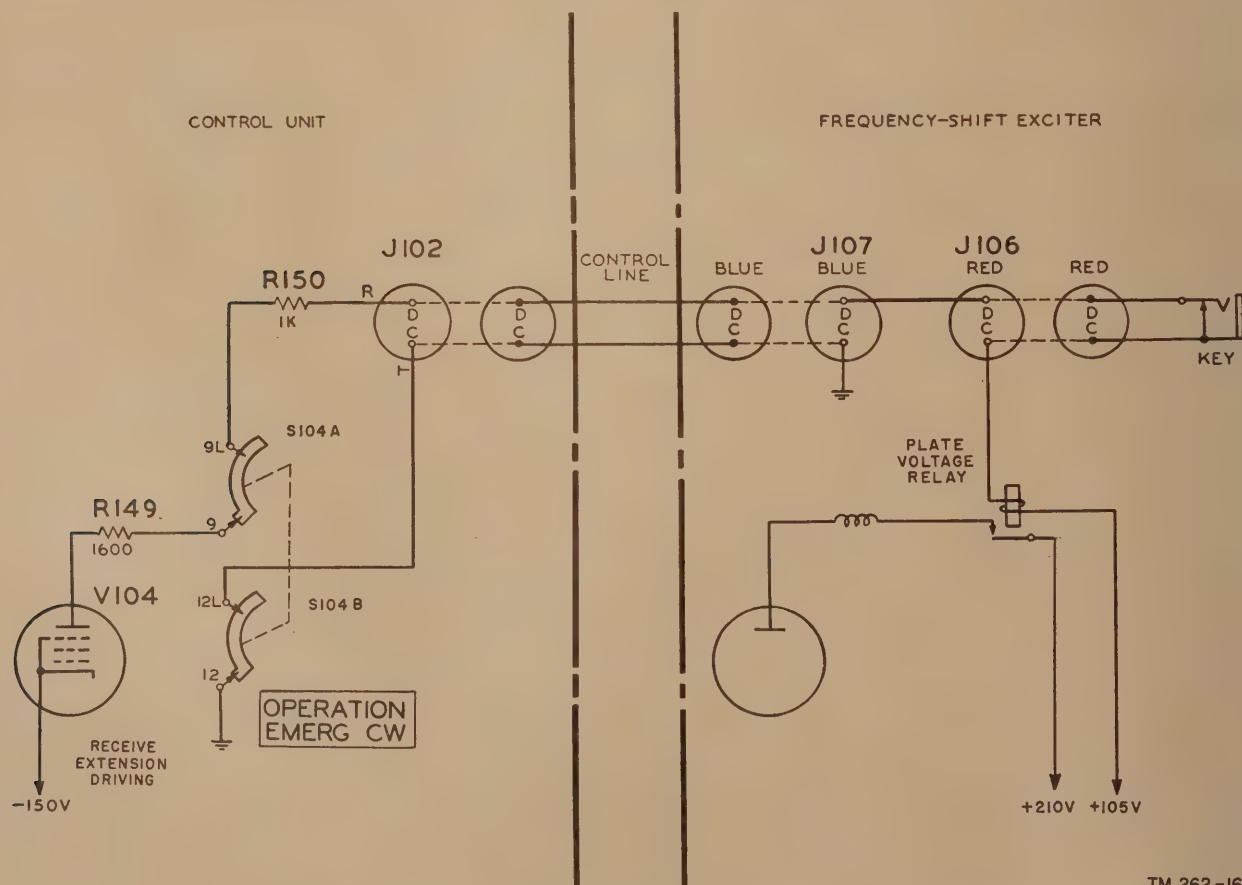

Figure 22. Keying control circuit for emergency operation.
a. In emergency c-w keying operation, the transmitter carrier is interrupted as in normal radio code transmissions. When OPERATION switch S104 on the control unit is turned to EMERG CW position, and the OUTPUT knob on the dual-diversity converter is turned to the SPACE position, the radio transmitter carrier may be keyed from the receiving shelter. These manual signals are transmitted by the dual-diversity converter as polar signals which operate the sending circuit of the control unit, as shown in figure 21. A simplified diagram of the keying control circuit between the control unit and frequency shift exciter is shown in figure 22. With OPERATION switch in EMERG CW position, the plate of receive extension driving tube is connected, through resistor R149, through section A of OPERATION switch S104, and through resistor R150, over the control leads to the FS